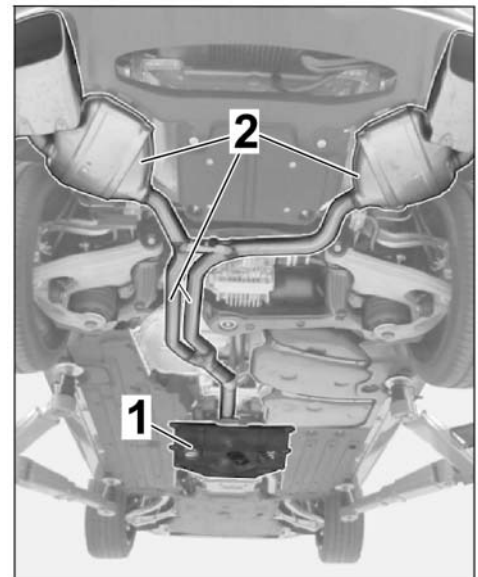

Figure 5
1.3.1 Remove tunnel cover on central underbody. ⇒ *Figure 5*, ⇒ *Workshop Manual '519319 Removing and installing cover for central underbody cover'*